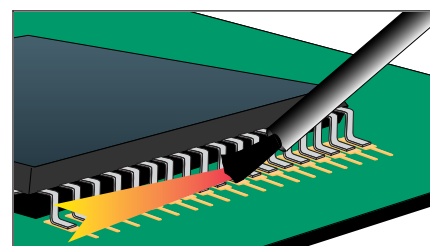

Figure 4 Flux Leads
8. Lightly flux the first row of leads to be soldered. (See Figure 4.)